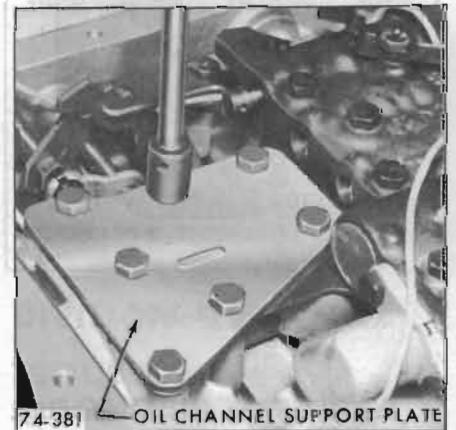

Figure 74-338
5. Install oil channel support plate. Torque bolts to 8-12 lb. ft. See Figure 74-338.